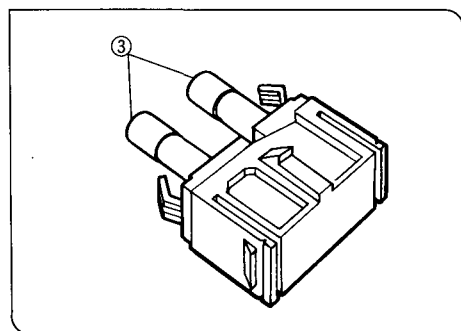

Fig. 47
- ⊙ Before replacing fuses, set the main switch ① to "O" (OFF) and unplug the power cord. (The power cord should be unplugged from the AC receptacle to allow removal of the fuse cassette.)
1. Remove the fuse cassette ② by inserting the tip of a flat-bladed screwdriver to squeeze in the claw the left or right side of the fuse cassette and pulling outward. (Fig. 47)
2. Replace both fuses ③ with new ones. (Fig. 47)